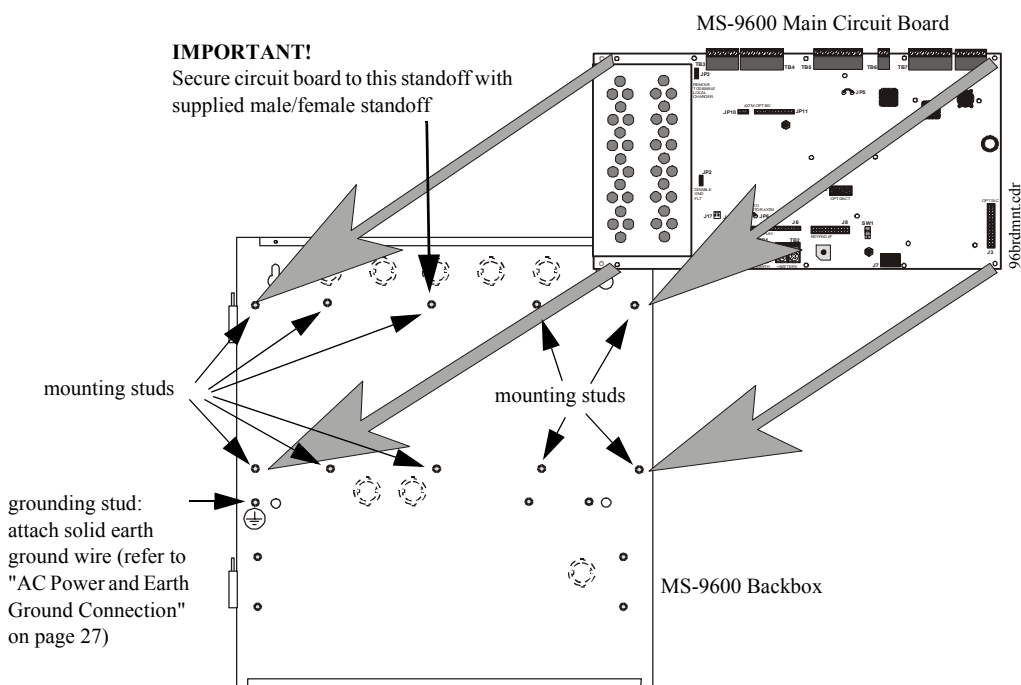

Figure 2.1 MS-9600 Main Circuit Board Installation
- ✓ Attach solid earth ground wire to grounding stud as indicated in Figure 2.1
Connect a wire from the grounding stud in the cabinet to a known solid earth ground (refer to Figure 2.1 on page 24). This connection is vital for maintaining the control panel's immunity to unwanted transients generated by lightning and electrostatic discharge. Apply AC power to the panel only after the system is completely installed and visually checked. *Note that AC power must be applied to the panel before installing the battery interconnect cable (refer to the following section).*